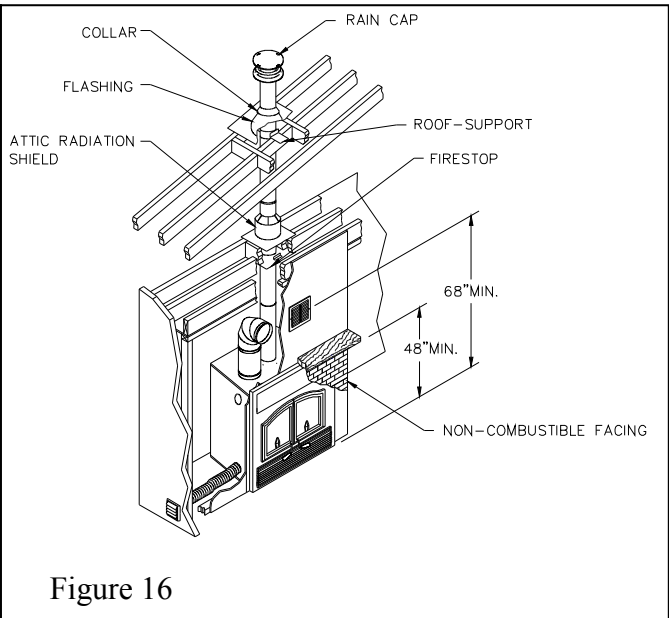

Figure 16
- c) The fireplace façade can be covered with non-combustible material (fig. 16).